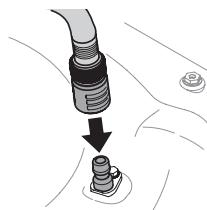

Figure 35
- Attach garden hose with the deck wash nozzle to the water port on your deck's surface (Figure 35).